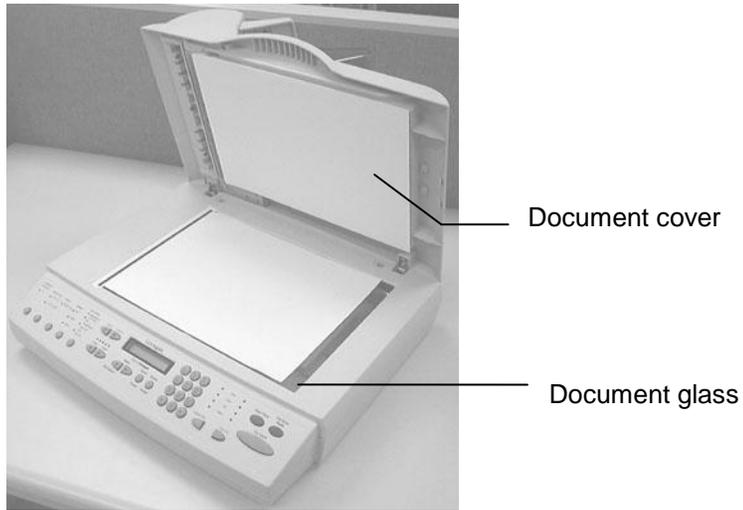

Figure 7.1 Cleaning
- (1) Open the document cover.
- (2) Dip a clean cloth with non-corrosion solvent like alcohol (purity above 99.5%).
- (3) Wipe the document cover and the document glass gently as shown in Figure 7.1 Continue until the entire document cover and document glass is cleaned and observe that no cleanser remains on the surf3100MFP.
- (4) Close the document cover. Your 3100MFP is now ready for use.